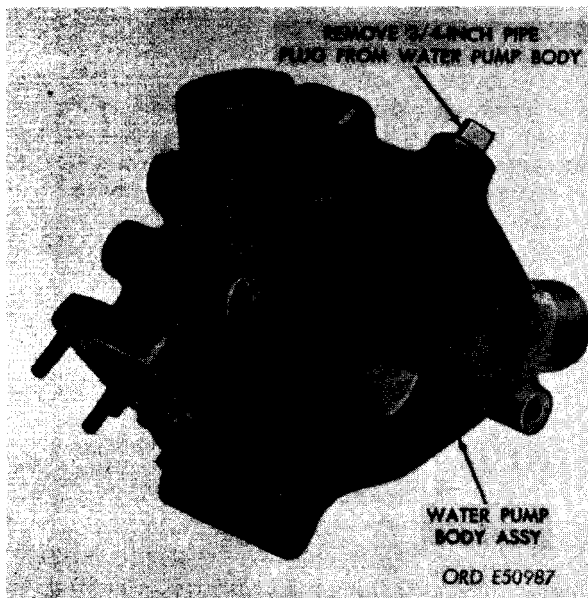

FIGURE 126. REMOVING PIPE PLUG FROM WATER PUMP BODY ASSEMBLY.
- (10) Refer to figure 126 and remove pipe plug from water pump body.
- (1) Refer to figure 126 and reverse the instructions to install 3/4-inch pipe plug in water pump body assembly.